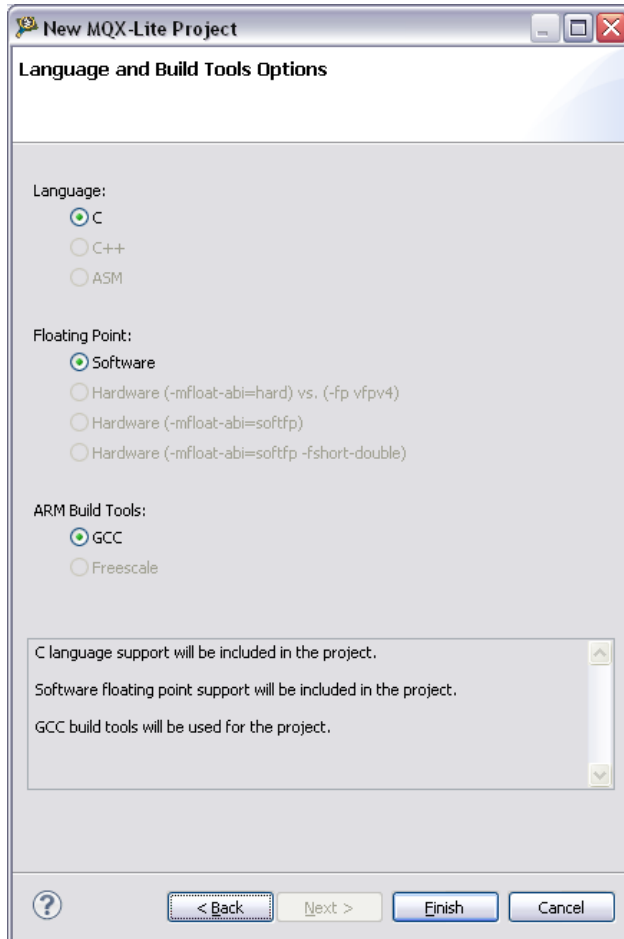

Figure 7. Programming language and build options selection
5. The next window has the options set by default. For this window we just need to click in the “Finish” button as Figure 7 illustrates.